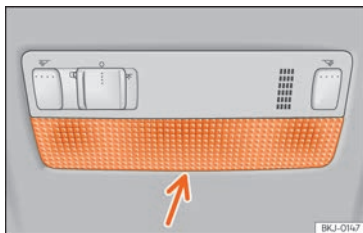

Fig. 62 Front reading light.
- Insert a fine screwdriver between the casing and the glass »»» **Fig. 62**.